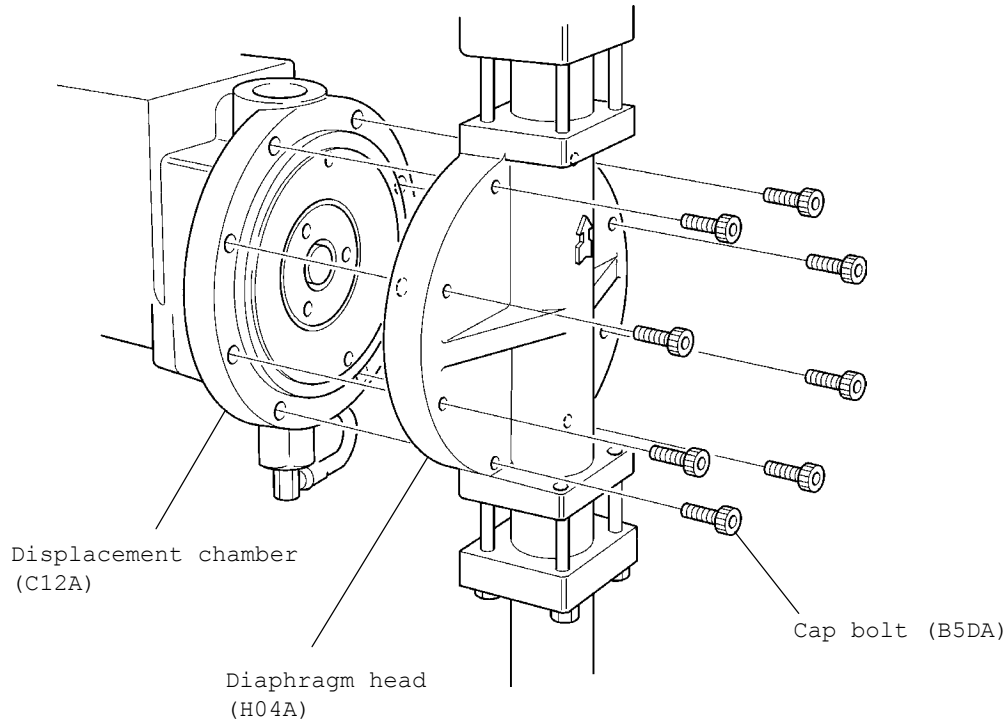

Fig. 7-9 Removal of diaphragm head
- (2) When mounting the diaphragm head, make sure that the flow direction of the handled liquid is upward and fit the diaphragm head to the displacement chamber with the specified torque. Refer to Fig. 7-9 and Table 7-3.
- (4) When mounting the diaphragm head, make sure that the flow direction of the handled liquid is upward and attach the diaphragm head to the displacement chamber with the specified torque. Refer to Fig. 7-9 and Table 7-3.